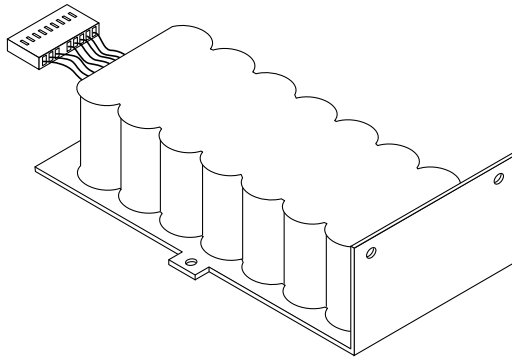

FIGURE 7-8 UPS Battery Setting Right Side Up
- 6. Lift the bottom panel with the battery away from the unit and set it aside as shown in FIGURE 7-8.**